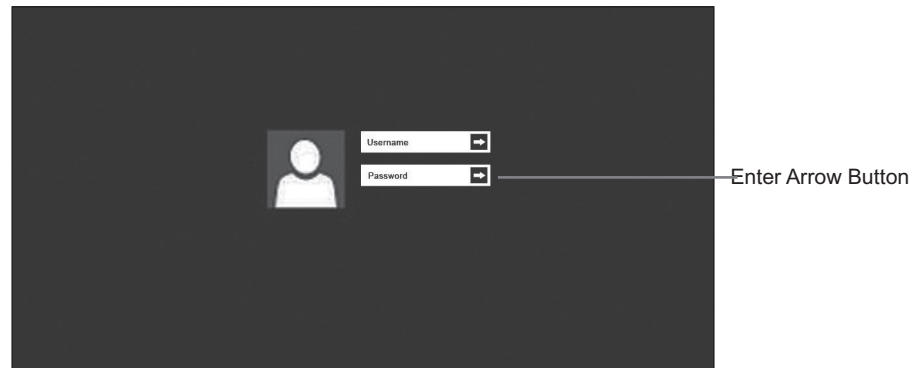

Figure 21: Windows Login Screen
3. Once the Display Monitor has turned on, touch the middle of the touchscreen and slide up to reveal the Windows Login Screen. See Figure 21.
4. Use the wireless keyboard or the on-screen keyboard to enter in "BITS" as the username and "bits" as the password. Press the Enter Arrow Button. See Figure 21.